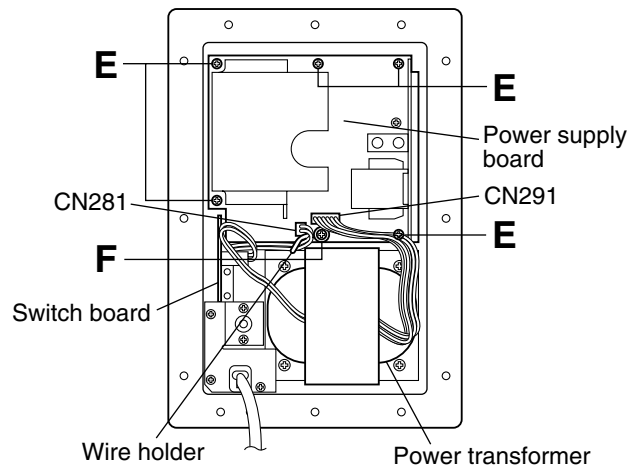

Fig.5
■ Removing the power supply board (See Fig. 5.)